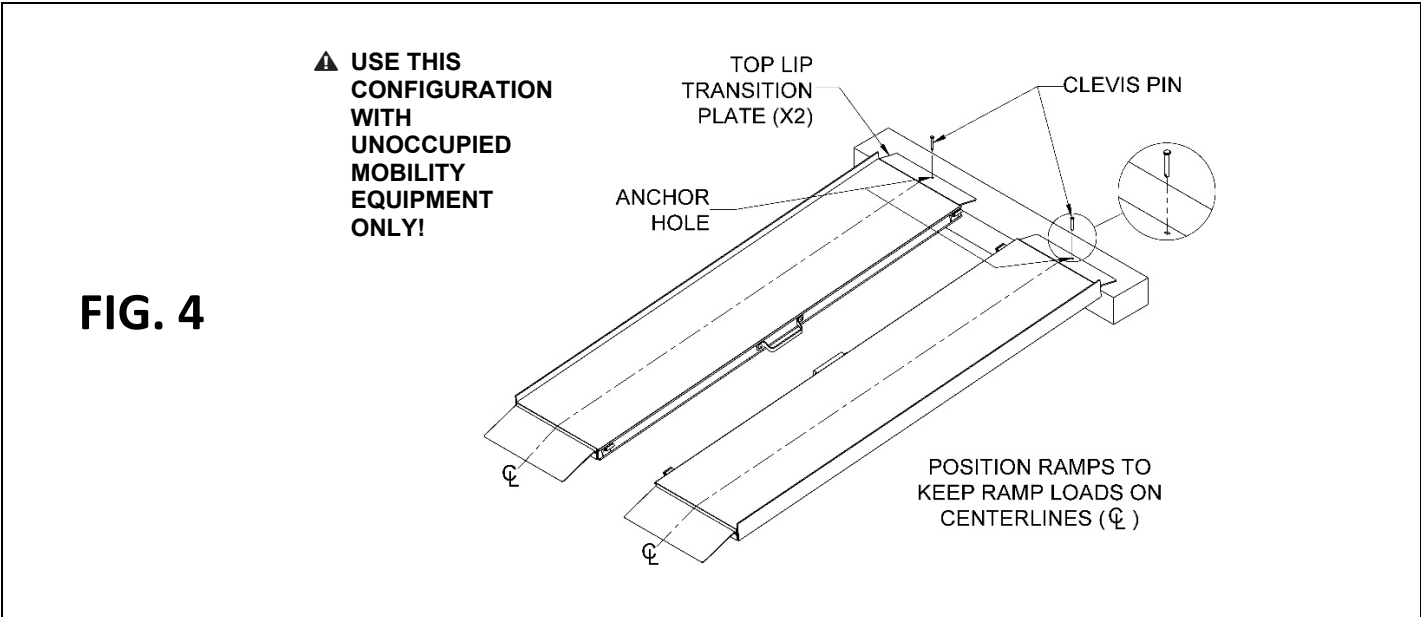
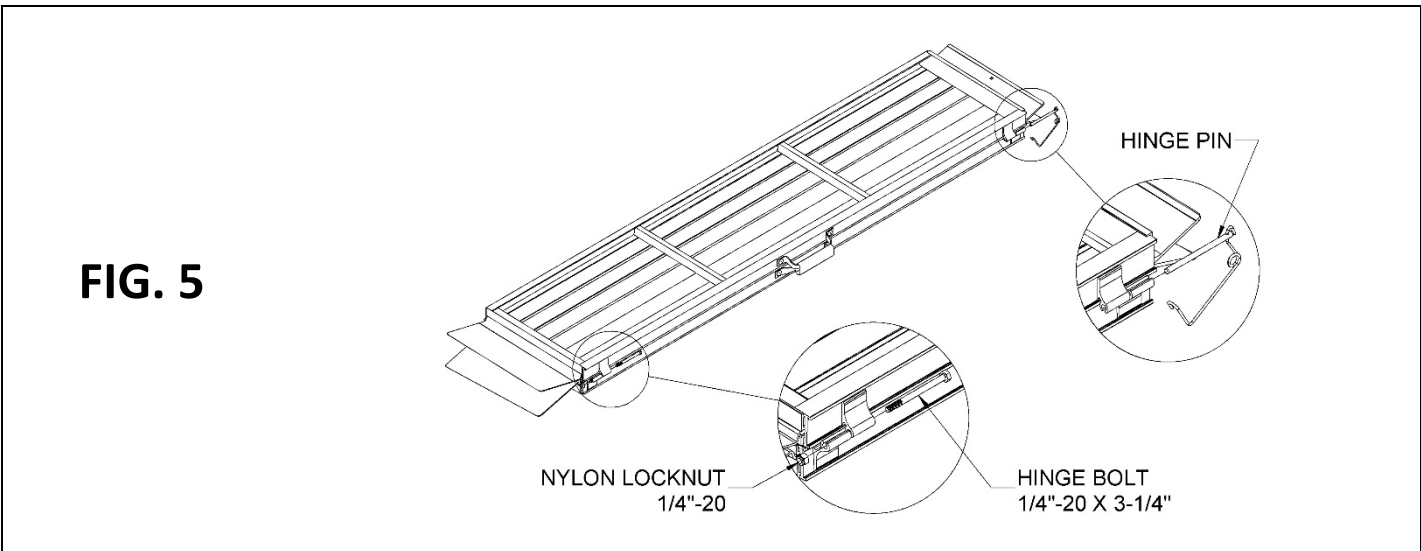

FIG. 4
FIG. 5
5. For stowage and transportation, or for loading unoccupied mobility equipment with a wider wheelbase, the ramp can be separated into two halves (FIG. 4) by removing (2 ea.) hinge bolts and nylon locknuts (FIG. 5).
6. Place the two ramp halves in a position that facilitates the load being centered on each half (FIG. 4).
- ⚠ Always keep ramp loads on the centerlines (FIG. 4).
8. Securely anchor each ramp half before use (FIG. 4); refer back to 'STEP 4' for anchoring procedures.
9. The ramp halves can be rejoined using provided (2 ea.) hinge pins or (2 ea.) original hinge bolts and nylon locknuts by positioning the ramp as shown (FIG. 5).